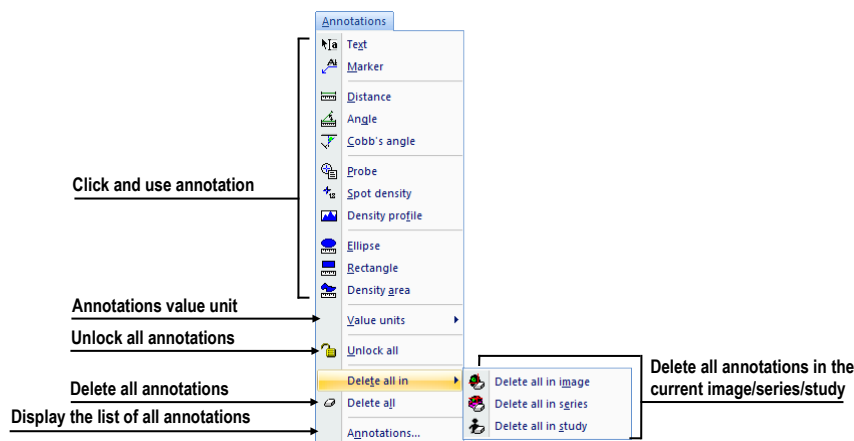

Figure 40 – Annotations menu
- **Annotations** – the function for annotation management in TomoCon. It allows you to create each type of annotation or measurement in the current view and to remove or edit selected annotation (see Figure 40).